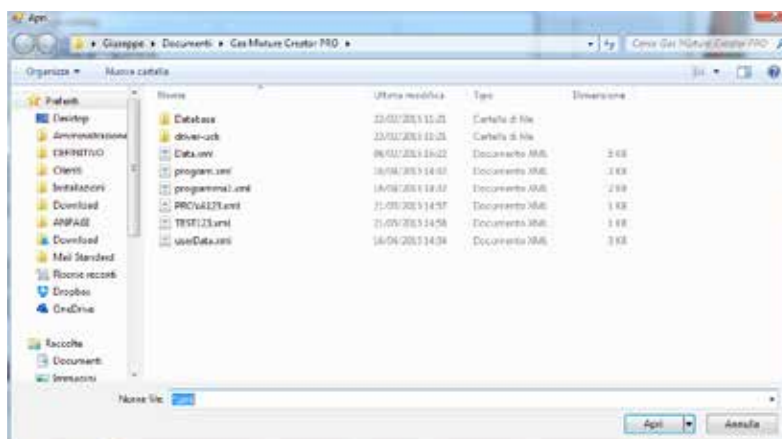

Fig. 33
4. If you have previously created your programs and you want to recall it, click on the button “**Load**”. Select the folder you have created to save your program, double clicking on your desired program and open it. (Fig. 33)